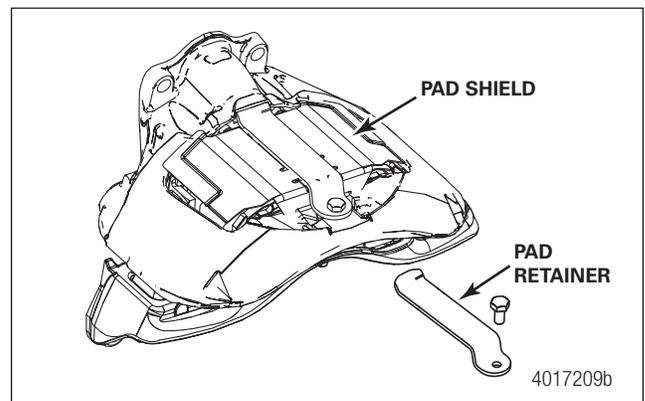

Fig. 6.23 Pad Shield and Pad Retainer
STEP 5 - Install the pad retainer on the brake. Prior to installation, inspect pad retainer for damage and replace if necessary Figure 6.23.